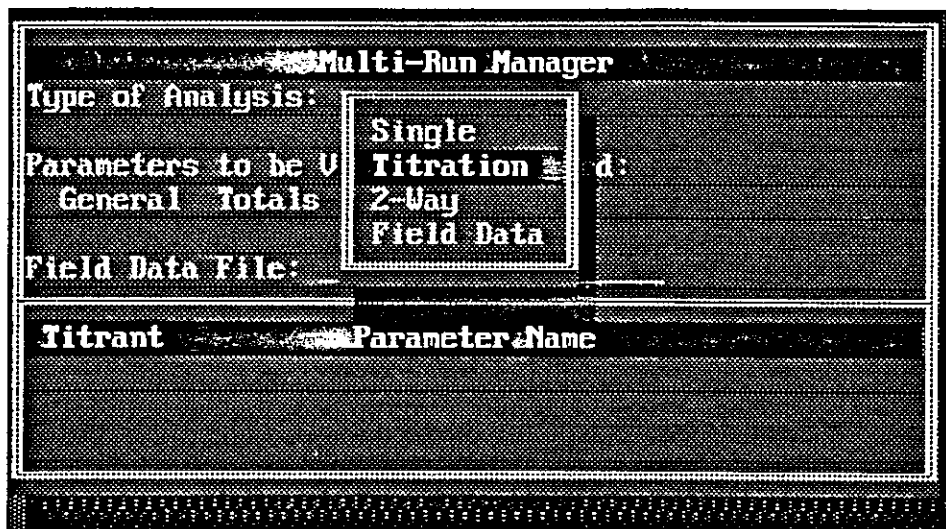

Figure 4.10.
Step 2. Select **Multiple Runs** from the Data/Run menu. The calculation type is set to **Single** by default. Press **Return** and select **Titration** as the new calculation type (Figure 4.10). At this point, other menu options will be available. Notice that there are 4 types of parameters with which you can titrate: **General**, **Totals**, **LogK**, and **DelH**.